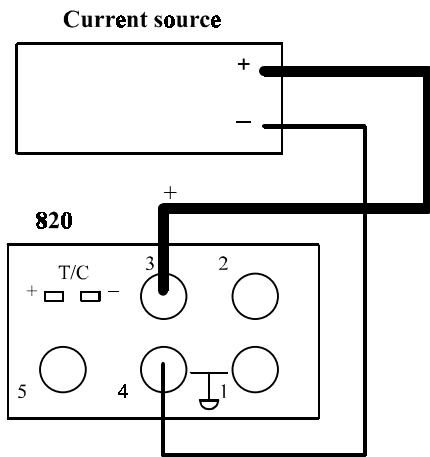

FIGURE 7
3. Hi Calibration: Connect a Current Source (Set to 20mA) to terminals 3 and 4 of the 820 (See figure 7). Press *STORE*;, make sure you hear the beep, then press *SOURCE/READ*..